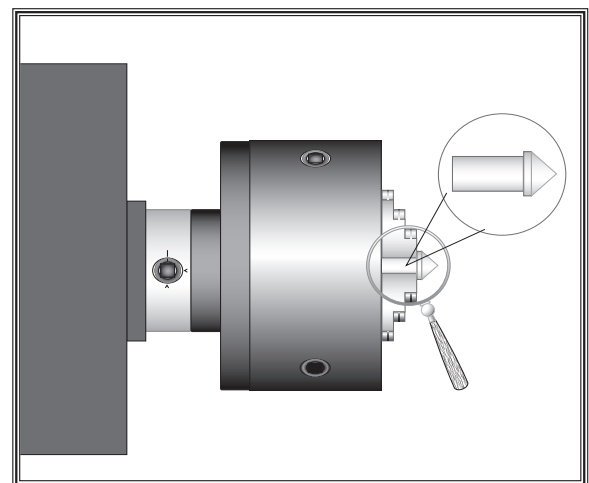

Figure 38. Tailstock centering dead center.
4. Using the other piece of stock, make a dead center by turning a shoulder to make a shank. Flip the piece over in the chuck and turn a 60° point (see **Figure 38**).